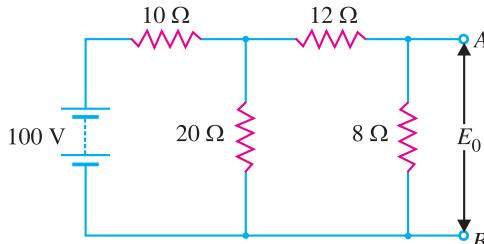

Fig. 1.28
**(i) Finding  $E_0$ .** It is the voltage across terminals A and B with  $100 \Omega$  resistance removed as shown in Fig. 1.28.